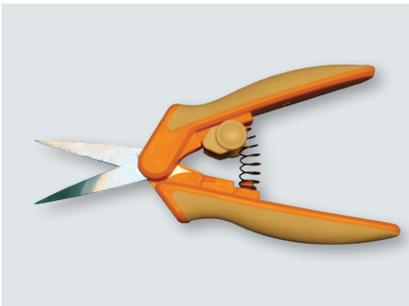

Figure 1: Cutters
1. Gather the tools and materials required for assembly and termination (Figures 1 – 6).